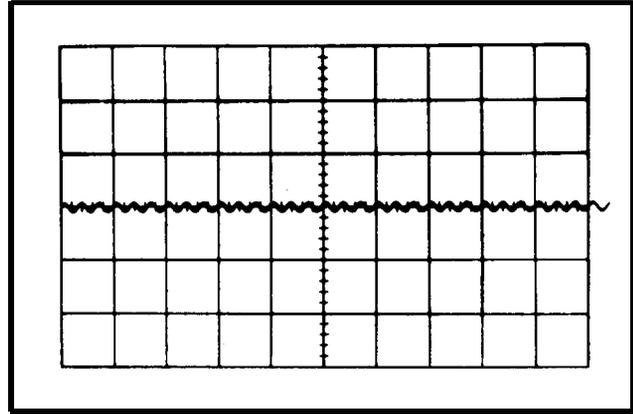

Fig. 6-35. Typical CRT display when checking low-frequency reject operation at 30 kilohertz.
c. CHECK-Stable CRT display (see Fig. 6-35) can be obtained with the A LEVEL control.
i. CHECK-Stable CRT display (see Fig. 6-35) can be obtained with the B LEVEL control.